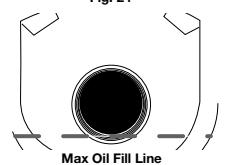

Fig. 25
5. Look into the oil fill hole, use a flashlight if needed. The oil should be just touching the inner most thread (Fig. 25).
6. If the oil level is not touching the inner most thread on the oil fill hole, add a small amount of oil to the oil fill hole and recheck (Fig. 25). Repeat this procedure until the oil level reaches the inner most thread on the oil fill hole.
NOTE: Use the bottle and spout saved from initial use to measure the correct amount of oil. The top of the label on the bottle measures approximately 0.04 ounces (90 ml) (Fig. 29). Check the level. See Checking the Oil Level. If the level is low, add a small amount of oil and recheck. Do not overfill (Fig. 25).